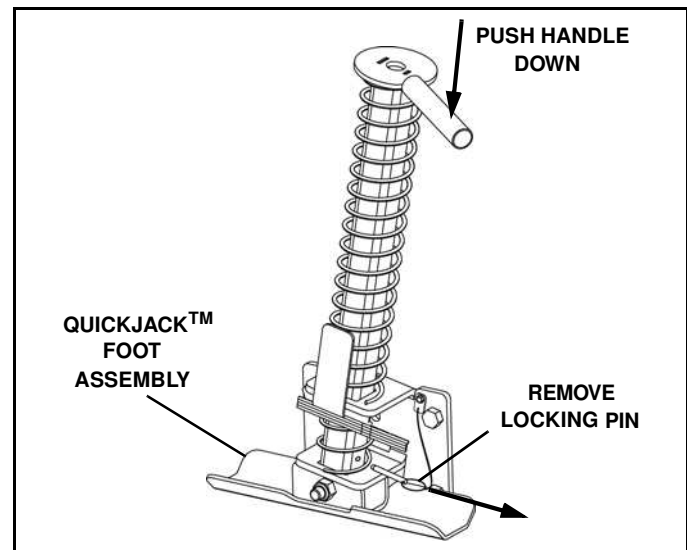

Figure 1-35
2. Remove the QuickJack™ locking pin and push the jackstand handle down to fully lower the foot to the ground. (See Figure 1-35).